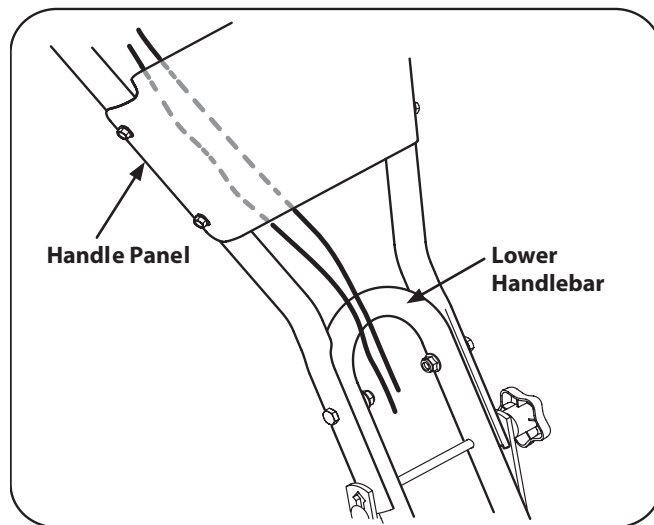

Figure 3-6
- Route the clutch cable over the lower handle bar and under the handle panel. See Fig. 3-6.